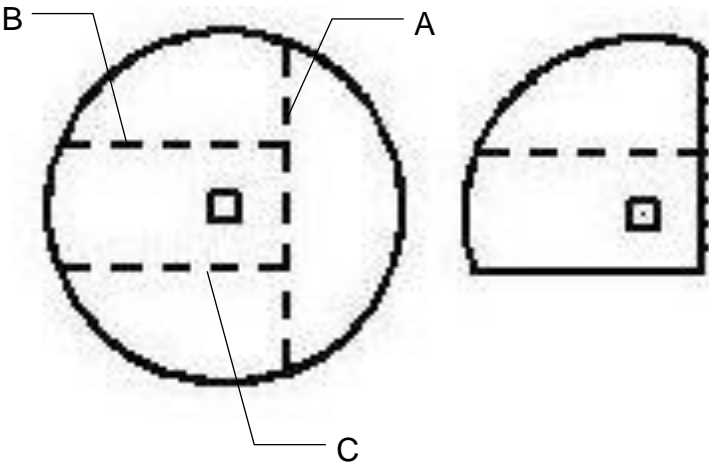

Figure 1
1. The moisture discs (006-4641H) will both need to be cut on line A (Figure 1). One disc will need to be cut on line B and one disc on line C.